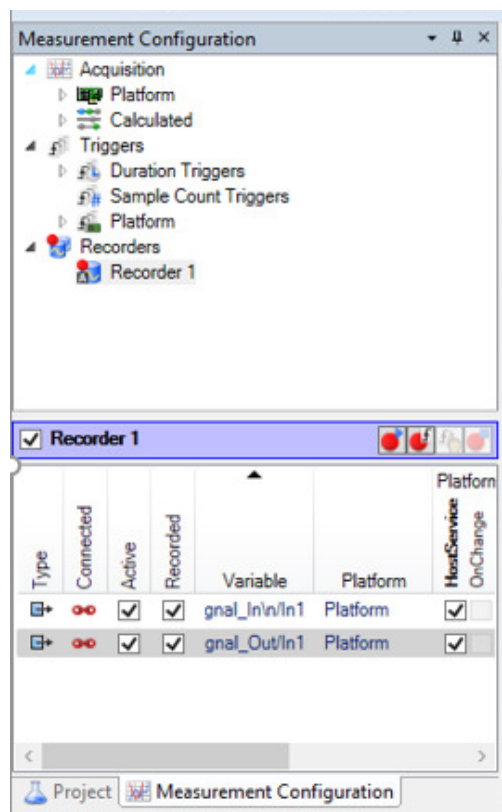

Figure 20: Measurement Configuration
- a. Settings: The captured data on the plotter array can be saved as a Matlab data file (.mat). There are different ways to do so. The simplest way is through the *Measurement Configuration*. This display can be added to the dSPACE layout from >>**View > Switch Controlbars > Measurement Configuration**, as shown in Fig. 20. Data is saved through the use of a *Recorder*. In the *Measurement Configuration* tab on the left hand side of the Control-Desk window, as shown in Fig. 20, click on the recorder name, here **Recorder 1** to select the recorder. Variables mapped to any plotters present in the layout will automatically be added to the list of variables for which data will be captured. If there are additional variables that need to be captured, drag and drop the variables from the Variables window to the *Recorder* variable list.